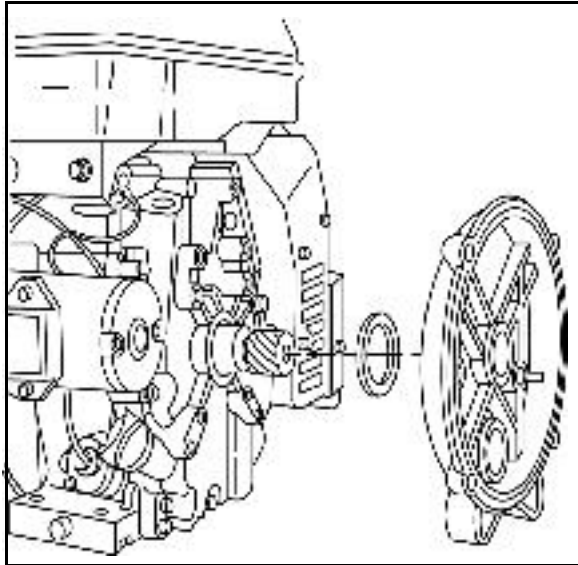

Fig. 27
1. Install new cork gasket on housing, and place housing against cylinder cover in original position, Fig. 27.
2. Install mounting screws (A) and locking plates (B) Fig. 27. Torque to listed value. **See SECTION 14- ENGINE SPECIFICATIONS.**